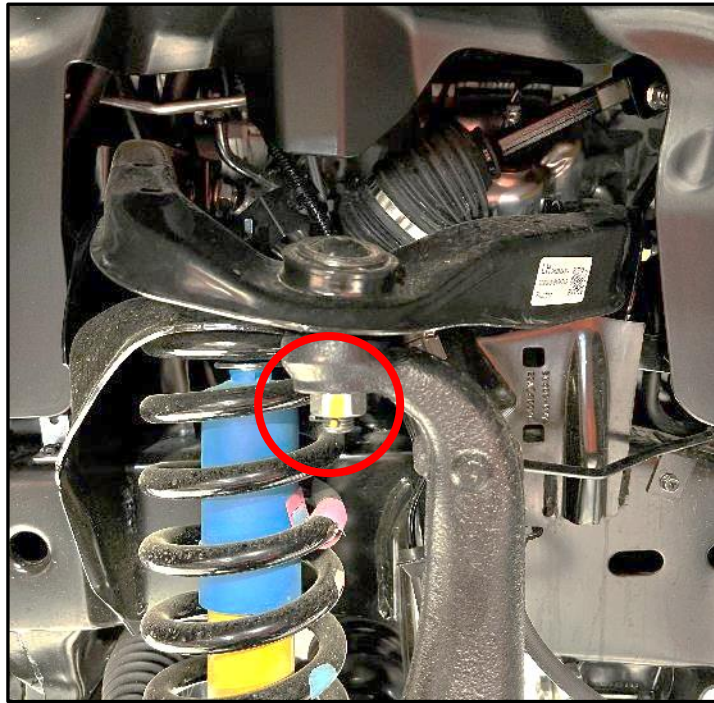

Figure 2
7. Remove the cotter pin on the Upper Ball Joint nut. Then remove the nut, circled below, *Figure 2*.